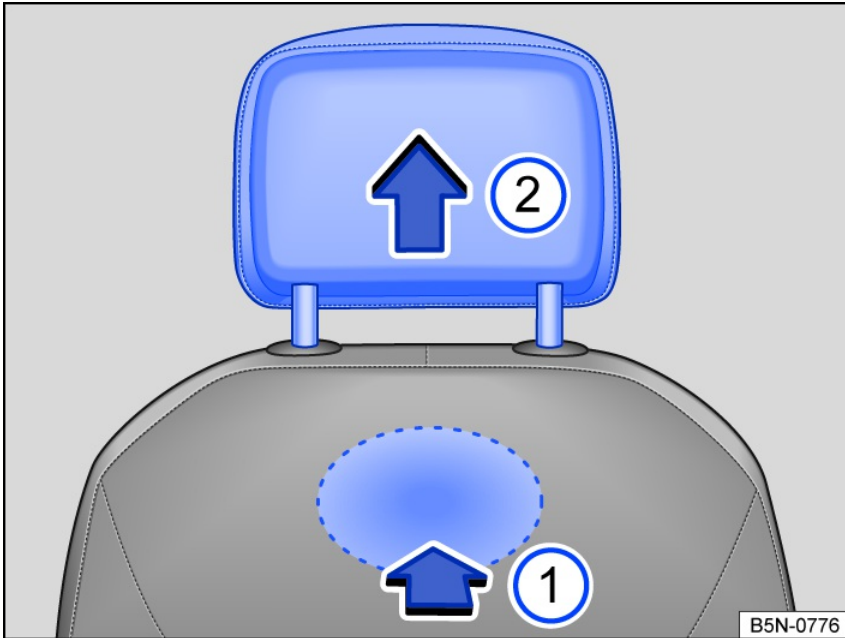

Fig. 74 Front head restraints: removing.
- To release, find the notch on the rear side in the marked area fig. 74 and push and hold in the direction of the arrow.
- Pull out the head restraint in the direction of the arrow fig. 74.